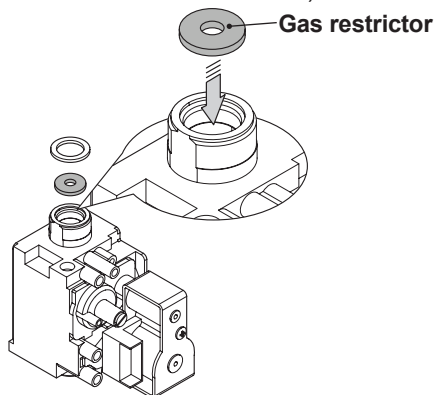

Fig. 9.2
- Carry out gas conversion by correctly replacing the gas restrictor (Fig. 9.2), referring to the "Technical Data" section (page 26 **Advance Plus 25C ERP**, page 30 **Advance Plus 30C ERP** and page 34 **Advance Plus 35C ERP**).